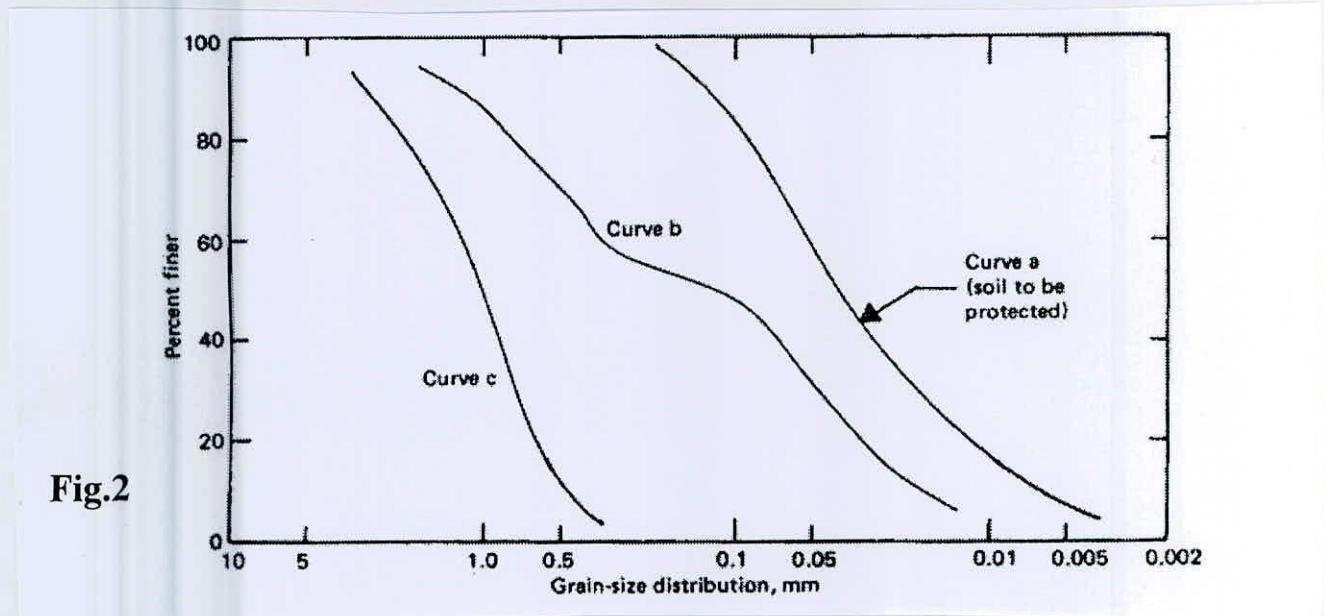

Fig.2
8. (a) Discuss the desirable characteristics of granular filter and the relevant design criteria to achieve these characteristics. (8)
- (c) In **Fig.2**, 'Curve a' represents the particle size distribution of soil on a slope. The figure also shows the particle size distributions of two granular soils as represented by 'Curve b' and 'Curve c'. Analyse the data and comment on the acceptability of the granular soils to be used in the filter layer for the slope. (7)